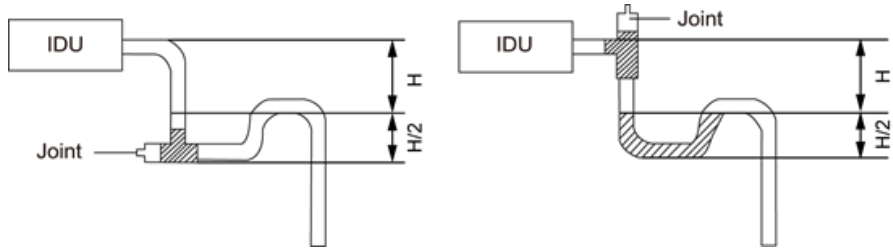

Fig 4.3.5
(5) Install the trap as shown in following Fig 4.3.5.